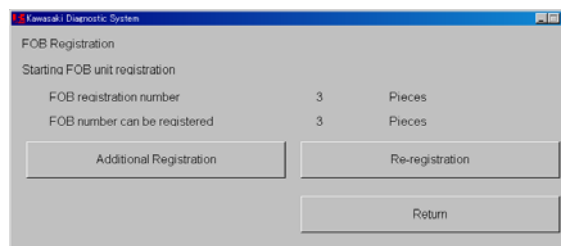

Fig. 5-32 FOB Registration
- When Fig. 5-32 appears, select *Return* if you are finished, or *Additional Registration* to register another FOB.